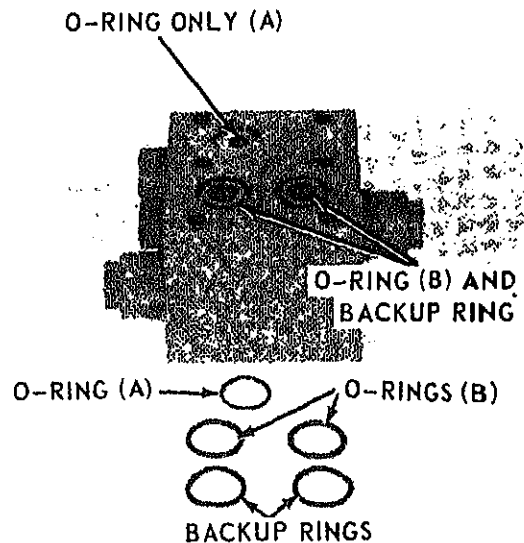

FIGURE 7-55.
b. The two grooves side by side on manifold assembly (see figure 7-55) require an o-ring and a back-up ring (one of each per groove). The o-ring goes into the groove first. Then install the back-up ring on top of the o-ring. The flat side of the back-up ring faces away from the o-ring.
c. The groove positioned by itself (see figure 7-55) requires only an o-ring.